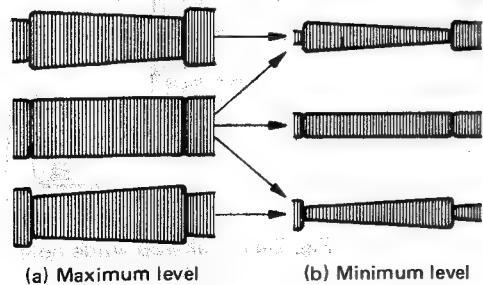

Fig. 2-43 Normal waveform examples
6. Turn the Tracking control from end to end. The waveform variation should be nearly parallel as shown in Fig. 2-43 and 2-44.